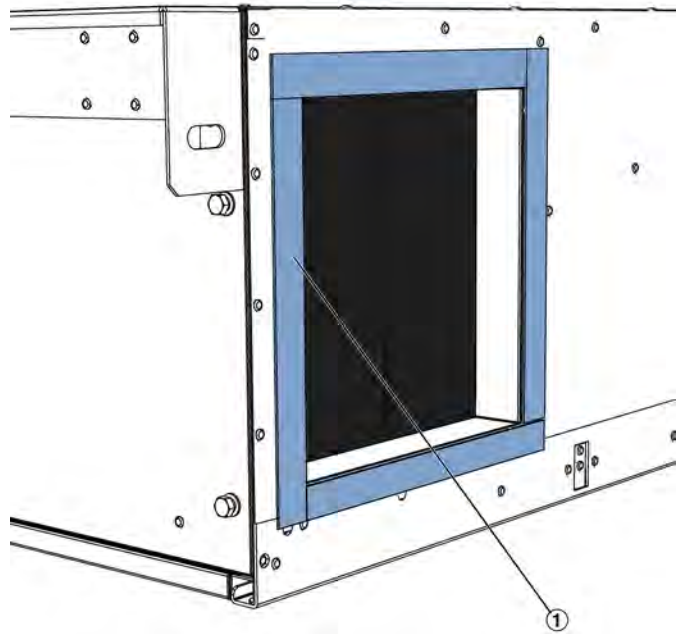

Fig. 40: Gluing the seal
4. ▶ Glue the Kompri sealing tape included in supply package around the air connection (Fig. 40 /1).